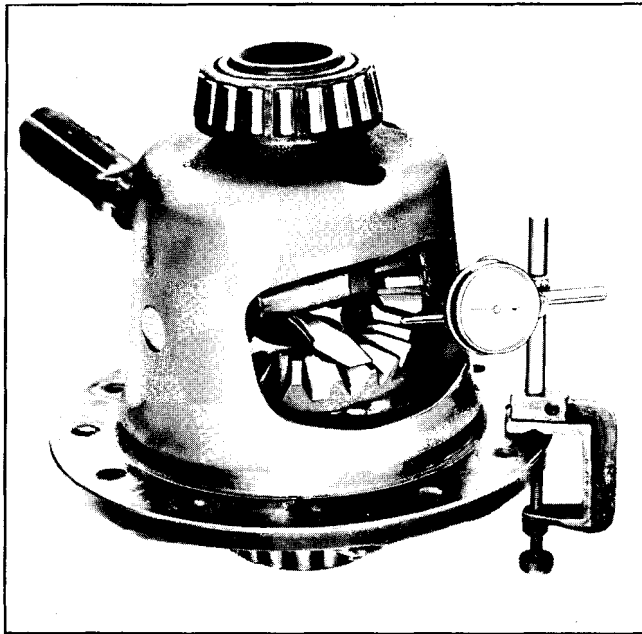

Fig. 4B-9 Checking Pinion Gear to Side Gear Clearance - B Series - "O" Axle
- d. Install dial indicator with the contact button against the pinion gear (Fig. 4B-9).